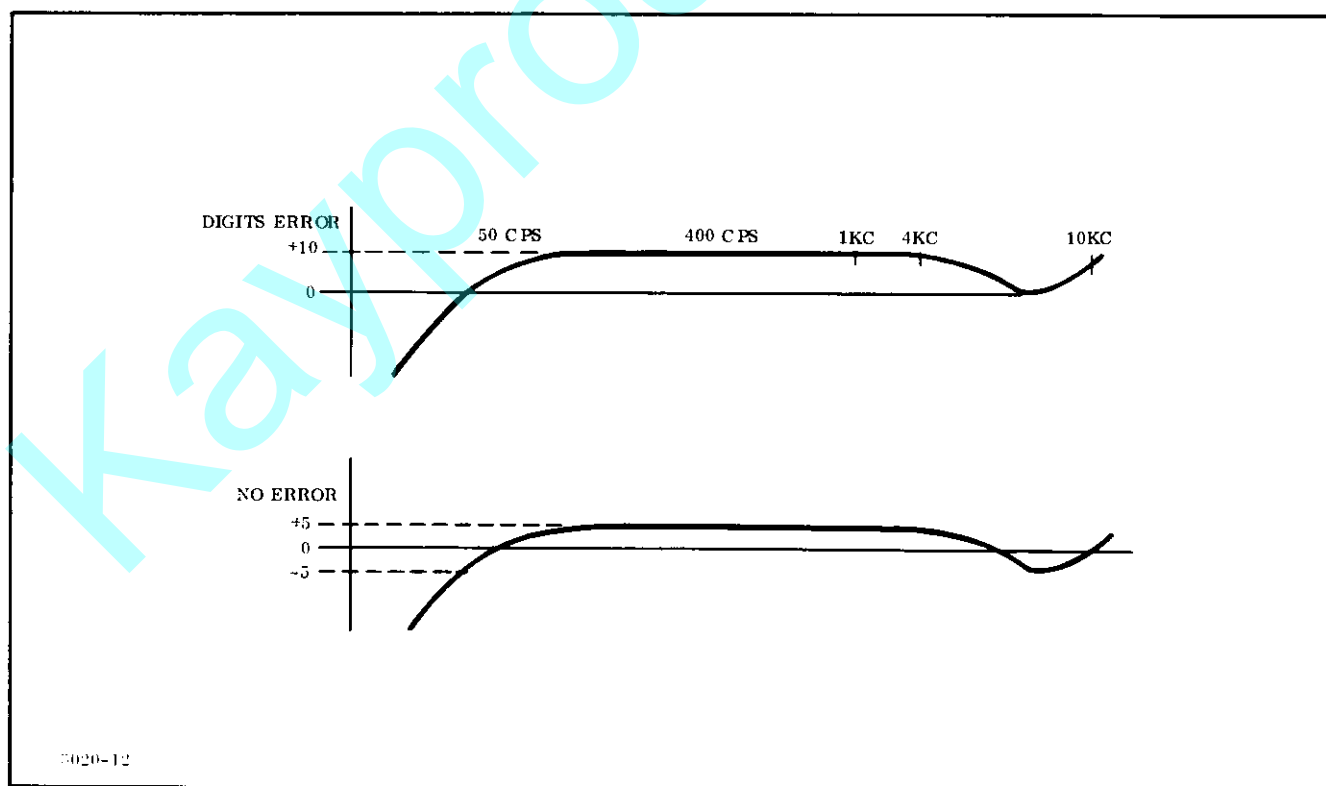

Figure 3-12. Error Compensating Diagram
29. Continue to perform steps 24, 27 and 28 until errors at 400 CPS and 1KC are compensated for. See figure 3-12.
35. Continue to perform steps 30, 33 and 34 until errors at 400 CPS and 1 KC are compensated for. See figure 3-12.
41. Continue to perform steps 36, 39 and 40 until errors at 400 CPS and 1 KC are compensated for. See figure 3-12.